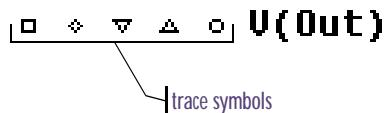

Figure 115 Trace legend symbols.
- 1 In the trace legend, double-click the symbol for the trace you want to identify (Figure 115).